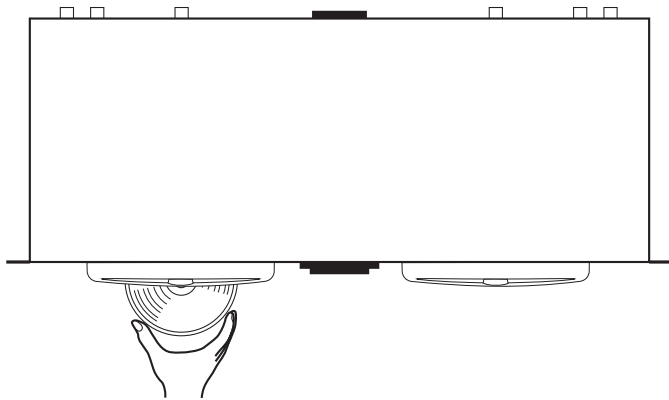
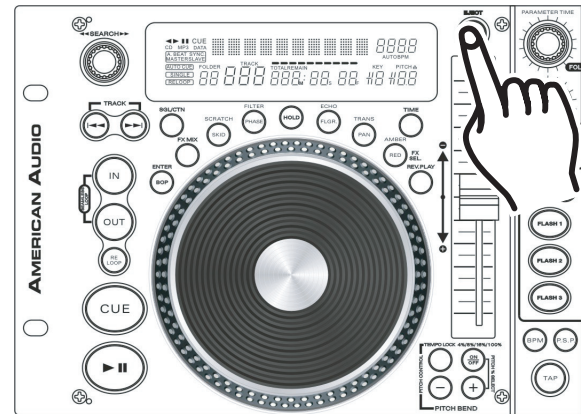

Figure 5: When inserting a disc always hold the disc by it edges and load the disc label side up.
Figure 6: Hold down the Eject Button to remove a disc.
The Velocity Mp3™ can only play regular 5 inch CDs. 3 inch, odd shaped, and oval CDs are not compatible. When loading a CD into the transport drive, always hold the disc by it edge (see Figure 5). Load the disc label side up and slide it in the disc slot. Never touch the signal surface (the glossy side). To remove a disc from the slot press the *EJECT BUTTON* (11), see Figure 6.